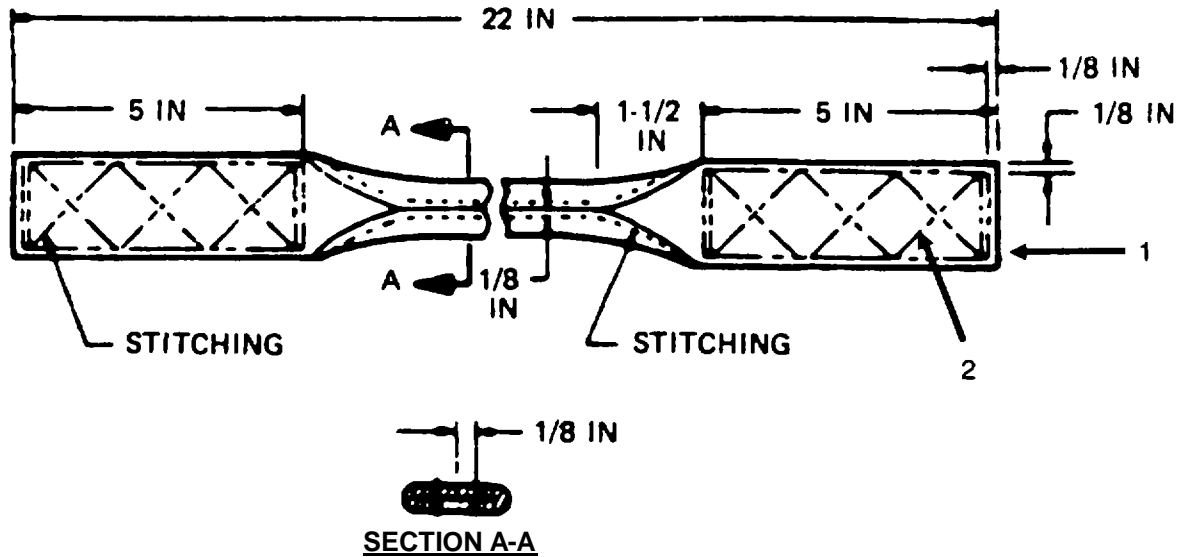

Figure E-3. Carrying Handle for Equipment Bag
3. Between the two marks made in 2 above, roll each edge of the webbing in one-half the width of the webbing (Figure E-3) and secure each rolled webbing edge with a single row of stitching located 1/8 inch out from the webbing edge, using the specifics in Table 24. Stitching will be made in accordance with paragraph 2-12.